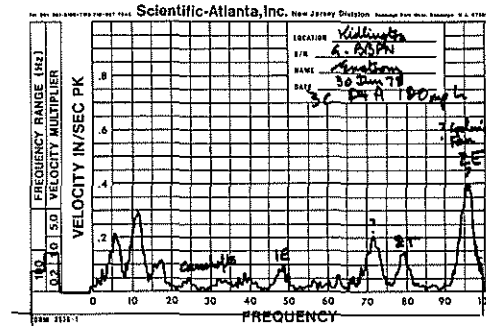

Fig. 8
c. Enstrom. (Fig. 8). The pilot of this aircraft had been throwing the helicopter back to the engineers for one month to "fix the main rotor vibration". The main rotor is perfect. It was the engine causing the vibration.